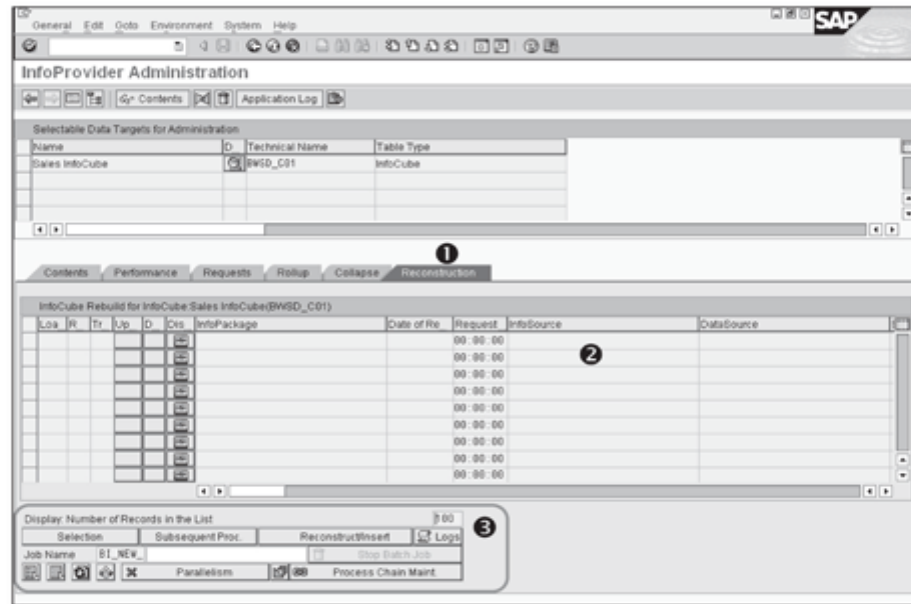

Figure 14.18 Reconstruction Tab for InfoCube Administration
The Reconstruction tab (❶ of Figure 14.18) in the InfoProvider Maintenance screen of an InfoCube offers exactly the same options and functions as in a DSO. As a reminder, this tab is relevant for those data targets that use ETL processes of SAP NetWeaver Version 3.x. It isn't relevant for ETL elements such as the DTP process.